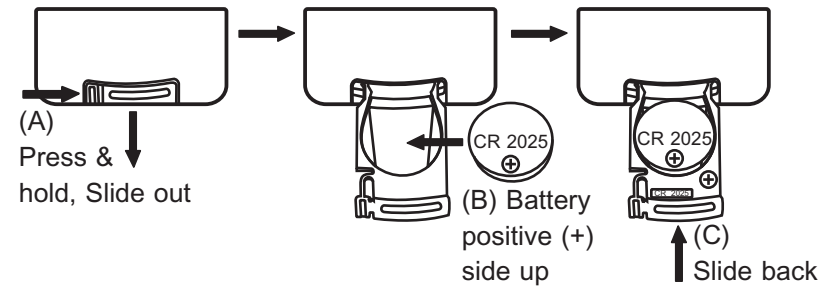

Fig. 30
4. Replacing USB Remote Battery, Fig. 30: